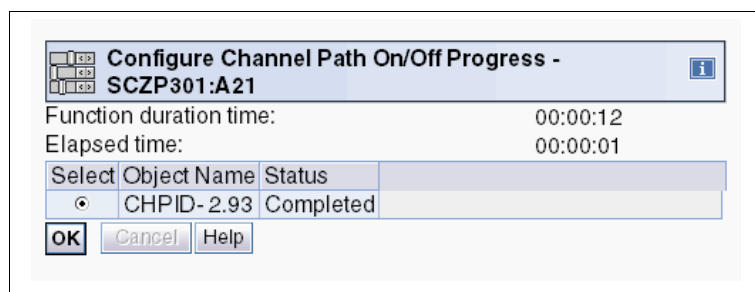

Figure 7-18 Result of toggle action
- 13.When the status change completes, you are presented with a status panel as shown in Figure 7-18.